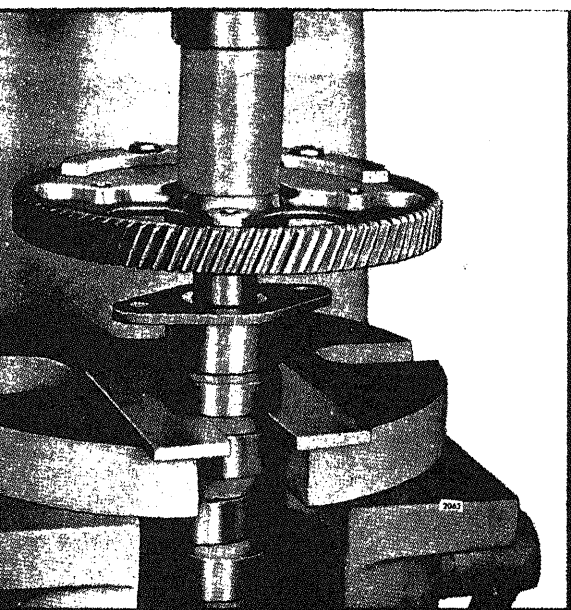

Fig. 2 - Installing Camshaft Gear
5. Then, with the camshaft supported in an arbor press, place a sleeve on top of the gear and under the ram of the press. Bring the ram of the press down on the sleeve and press the gear tight against the spacer on the shaft (Fig. 2).